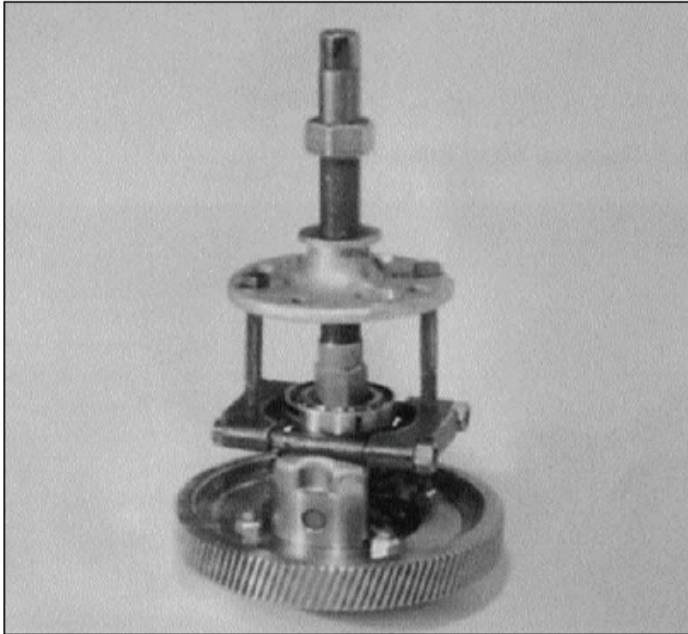

Figure 7-16. Removing Differential Bearings
10. Using a bearing puller, remove differential bearings (8) from each side of the differential case. See Figure 7-16.